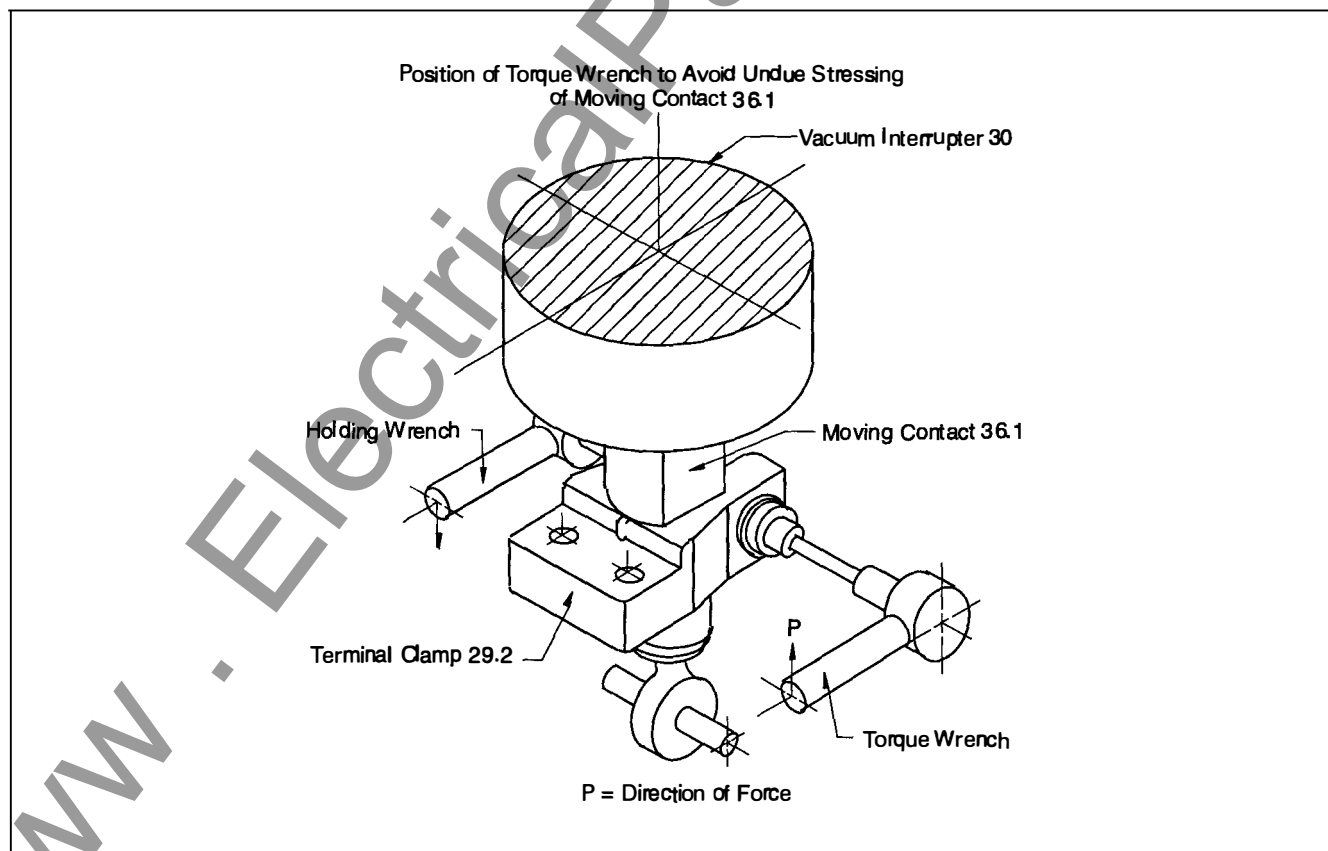

Figure 20. Technique for Tightening Vacuum Interrupter Terminal Clamp Hardware
- 1.2 Loosen the lateral bolt(s) on terminal clamp (29.2). Refer to **Figure 20** and employ the illustrated procedure to loosen clamp hardware.
2.7 Raise the terminal clamp (29.2) against the step or the spacer (if applicable) of the moving contact (36.1) of the vacuum interrupter (30) so that the radius of the movable contact faces the connecting surface of the flexible connector (29.1). Refer to **Figure 20** and employ technique illustrated to fasten terminal clamp. Note opposing wrenches. Tighten the bolt(s) of the terminal clamp to a torque of 40 Nm (30 ft. lbs.), taking care to see that the terminal of the vacuum interrupter is not subjected to excessive bending movement.